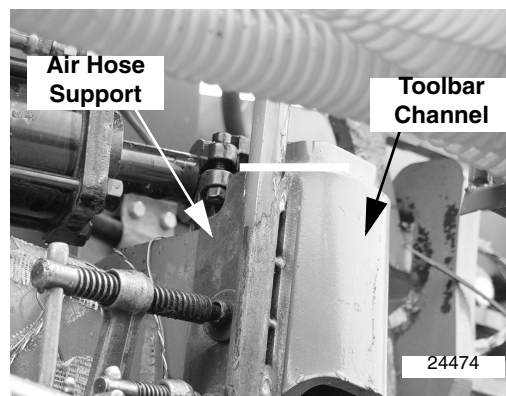

Figure 5
Refer to Figure 5
12. Align air hose support weldment with toolbar channel as shown in Figure 5.